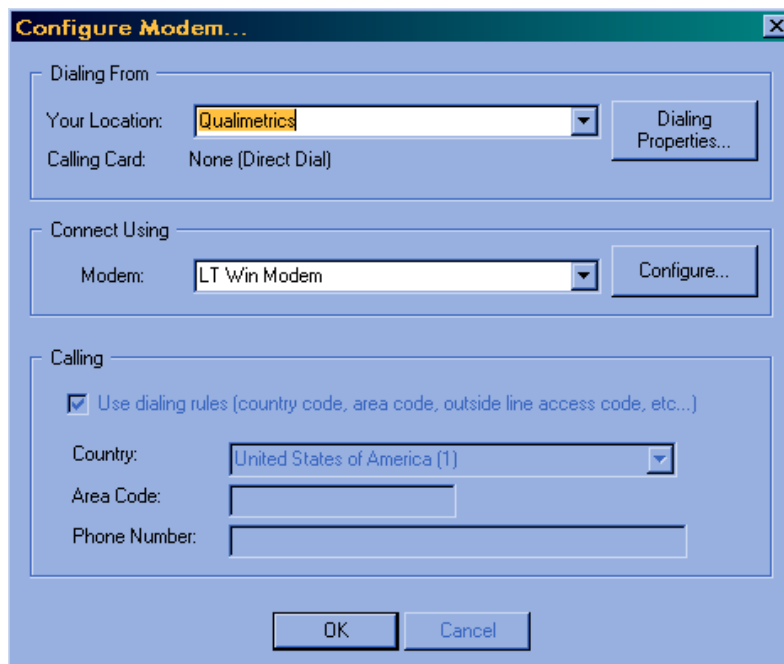

Figure 2
When the RMM Program is started, the *Configure Modem* screen (**Figure 2**) is automatically presented, allowing you to specify modem and line connection settings. In most cases, once these settings have been specified it should not be necessary to change them. If you do need to change something, you can access the *Configure Modem* menu at any time from within the RMM software as follows:
- 1 Select **Modem...** from the *Configuration* menu on the RMM main screen's menu bar. The *Configure Modem* screen (**Figure 2**) will appear.